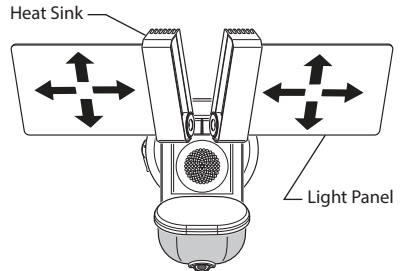

Figure 10
- If needed, gently grasp the top and bottom of the light panels and tilt them up or down or side to side to adjust the light coverage area (see Figure 10).